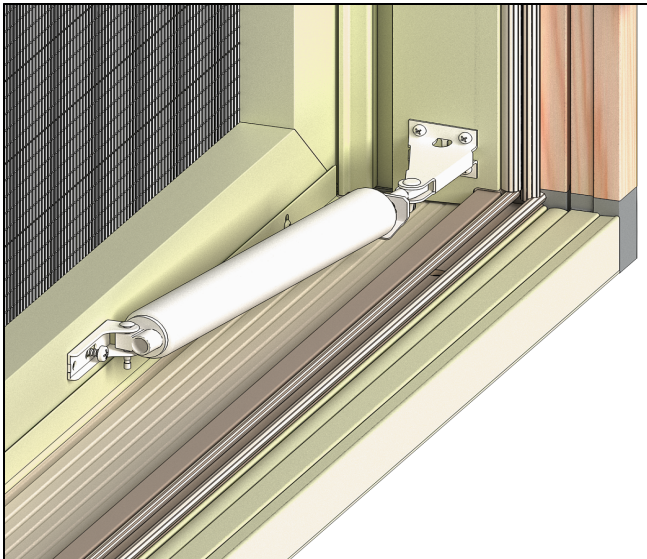

Figure 21
5. Hold the closer assembly and door bracket in a level position. Mark and drill 1/8" (3) hole in the end of the adjustment slot.
6. Attach the door bracket with a #10 x 5/8" screw in the adjustment slot. See Figure 21.